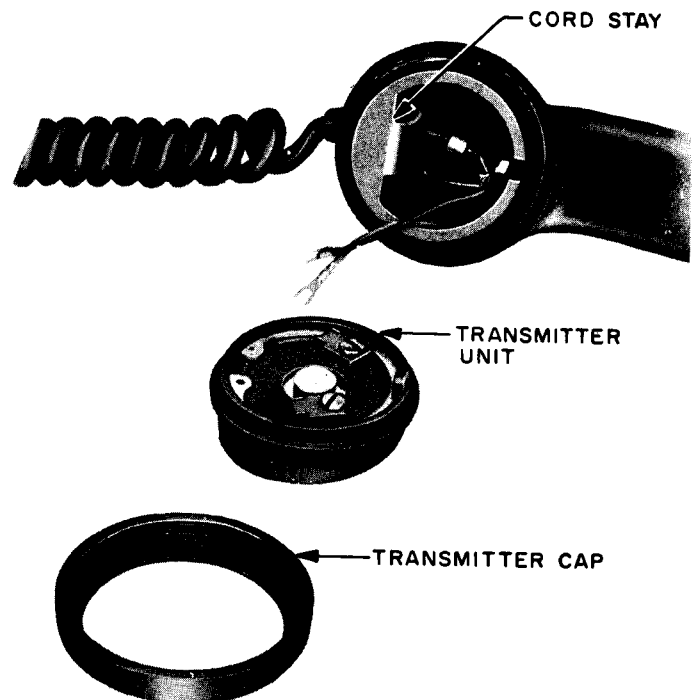

Fig. 4 — Assembly of KS-16664, List 1 Transmitter
2. Insert metal cord stay over cord as shown in Fig. 4. Make sure that cord stay is pressed firmly down into handset molding.